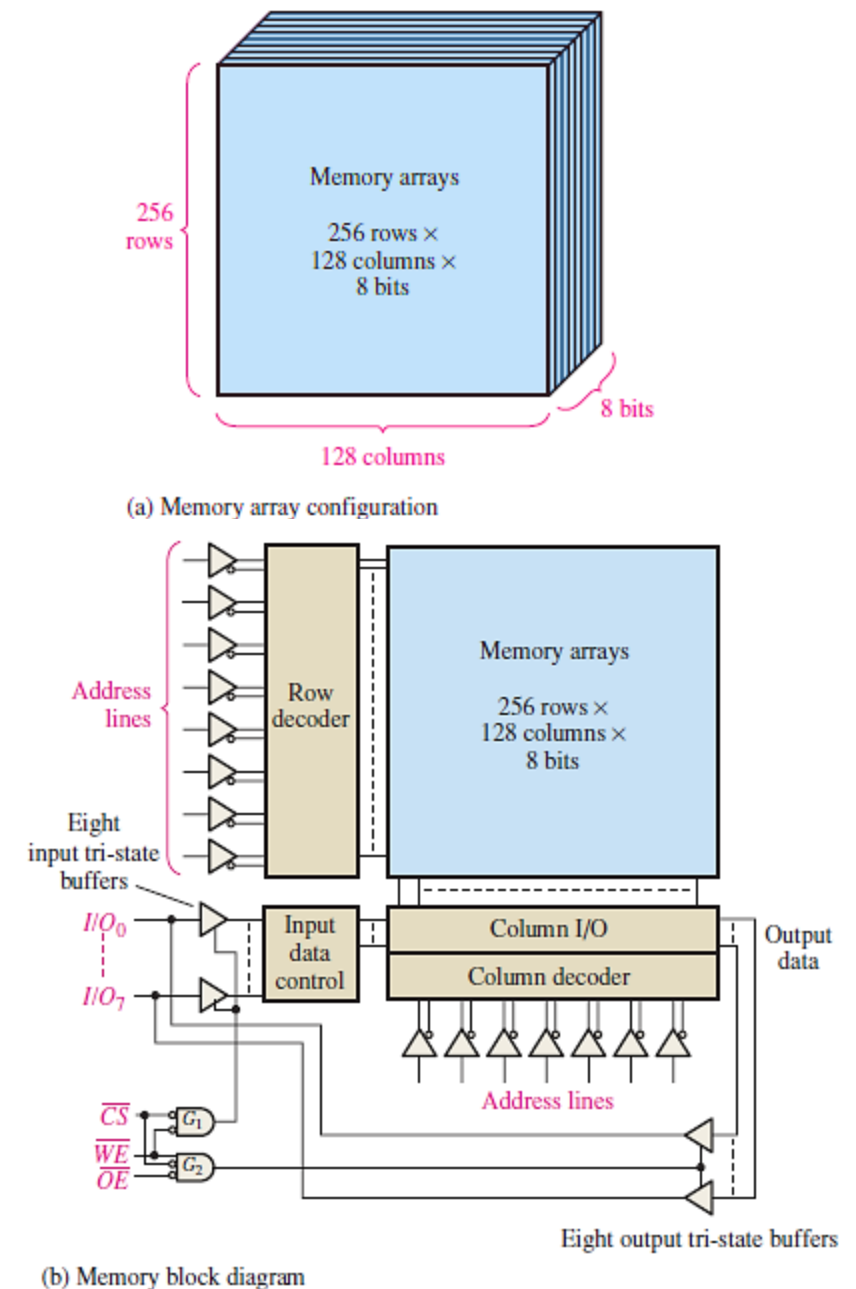

FIGURE 5 Basic organization of an asynchronous 32k * 8 SRAM.
- ❑ SRAM chips can be organized in single bits, nibbles (4 bits), bytes (8 bits), or multiple bytes (words with 16, 24, 32 bits, etc.). Figure 5 shows the organization of a small 32k * 8 SRAM. The memory cell array is arranged in 256 rows and 128 columns, each with 8 bits, as shown in part (a).
- ❑ The SRAM in Figure 5(b) works as follows. First, the chip select, CS, must be LOW for the memory to operate. (Other terms for chip select are enable or chip enable.) Eight of the fifteen address lines are decoded by the row decoder to select one of the 256 rows. Seven of the fifteen address lines are decoded by the column decoder to select one of the 128 8-bit columns.